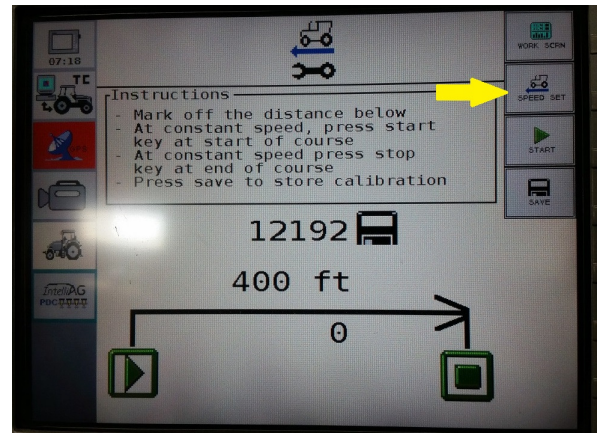

Figure 70
Step 6. Get tractor up to steady speed once you reach beginning of course. Press **Start**. (Figure 70)